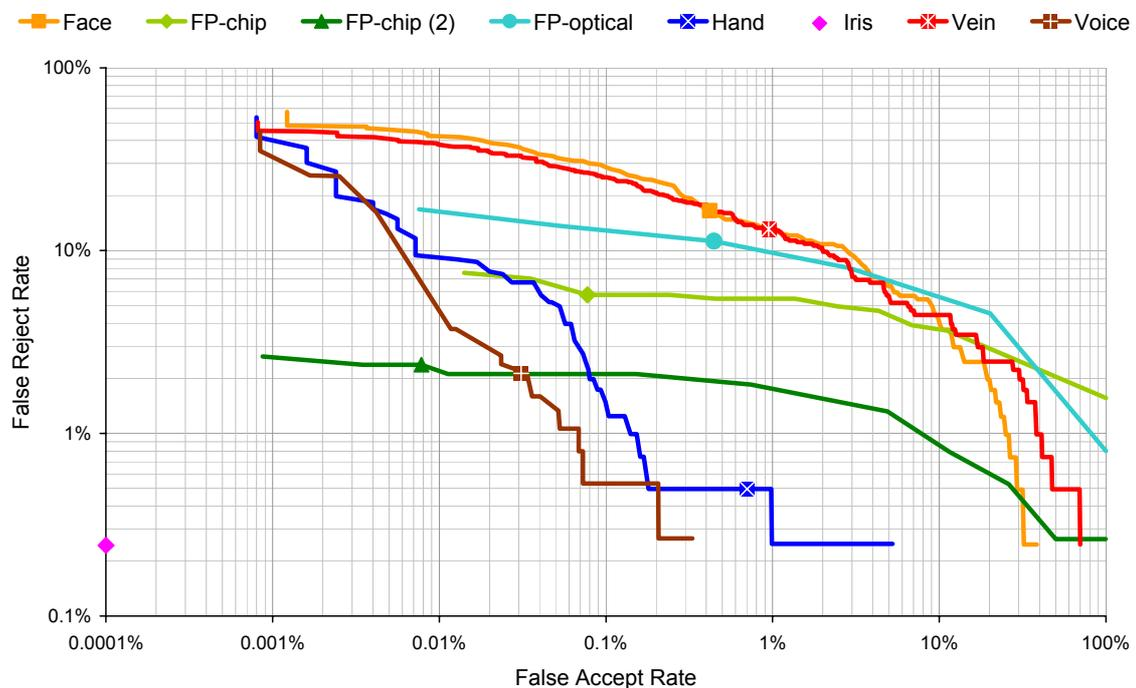

Figure 6. Detection error trade-off: Best of 3 attempts
38. The 3-attempt genuine and impostor scores are the best matching score from the 3 attempts made at the person-visit (scored against the chosen template). The resulting detection error trade-off (DET) curves are shown in Figure 6.
- In the case of the trial systems and data, the two curves follow each other closely8, so Figure 6 shows a single curve for each system9.